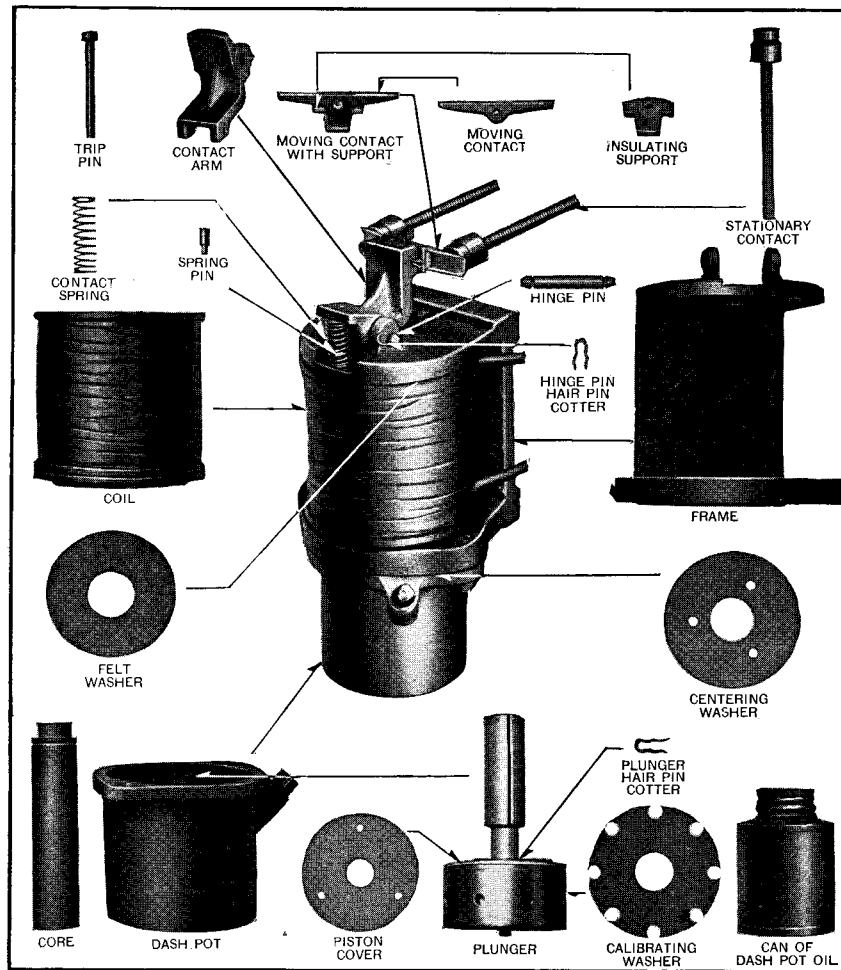

Fig. 3—Renewal Parts for Type KP Relays
1. Name the part, using the name shown on the illustration, figure 3, and state the quantity desired.